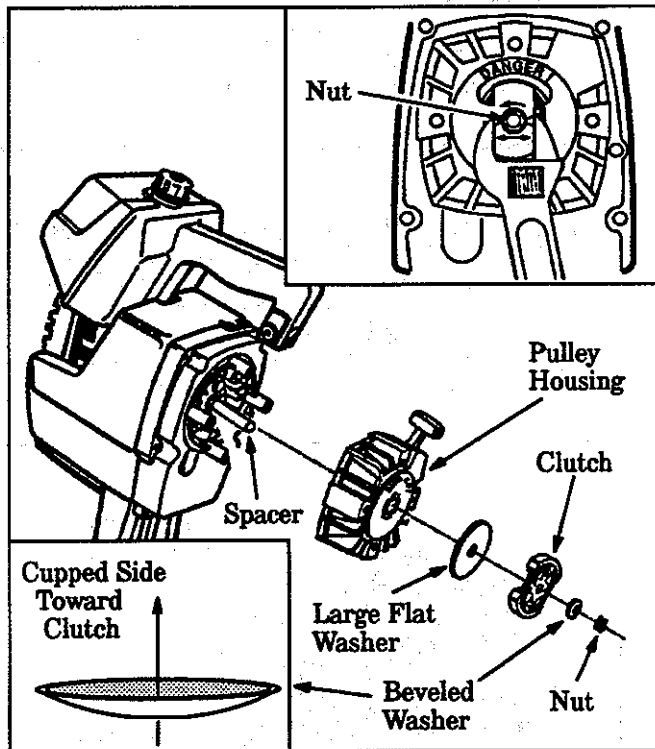

Figure 27
5. Hold the "Flats" of the clutch with an adjustable wrench as shown in Figure 27 (inset) and remove the Nut counterclockwise with a 9/16" socket wrench.
6. Remove the Beveled Washer, Clutch, and Large Flat Washer as shown in Figure 27 .
7. Remove the Pulley Housing from the Engine. Figure 27 .
21. Make sure Spacer is in place as shown in Figure 27, then reverse steps 1 through 7 to re-assemble.
**CAUTION:** When reinstalling the clutch, install the beveled washer as shown in Figure 27 (inset, lower left) and tighten the nut until the beveled washer is flattened against the clutch. Over or under tightening the nut can cause engine damage.